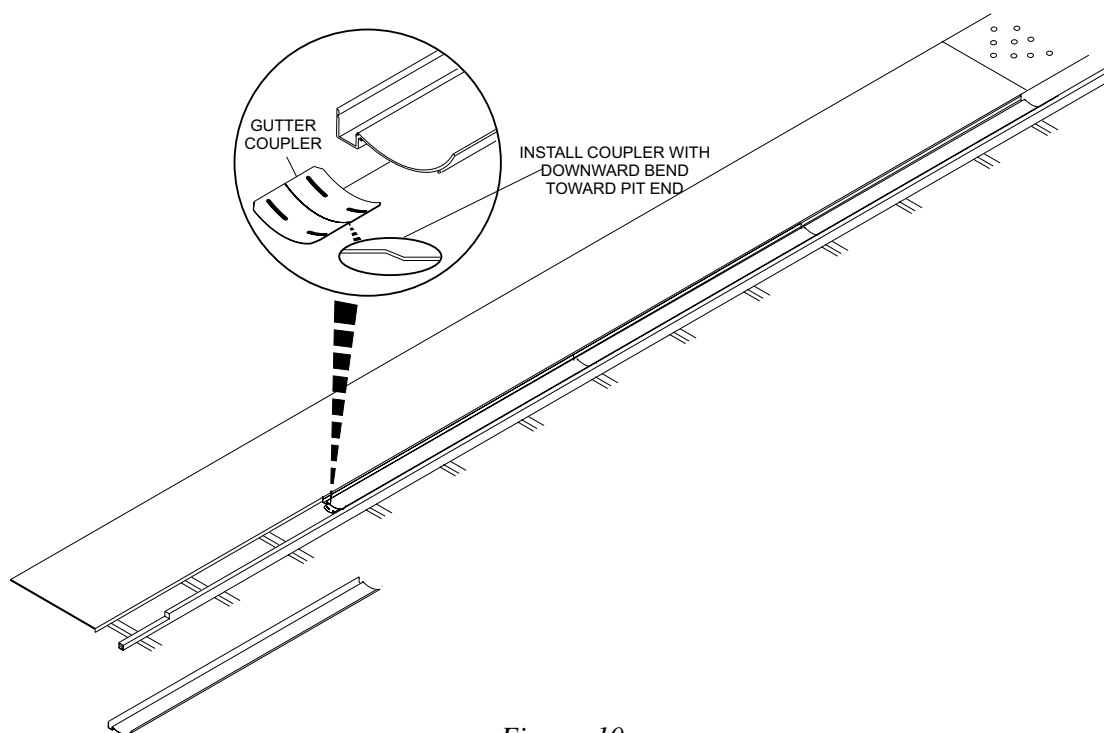

Figure 10
12. Make sure the gutter coupler plate is installed in the second gutter section. Refer to *Figure 10*.